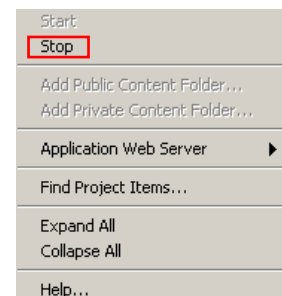

Figure 2c: Stop LabVIEW player
- To stop the LabVIEW player, right-click on “v1” as shown in Figure 2c. Select “Stop”.